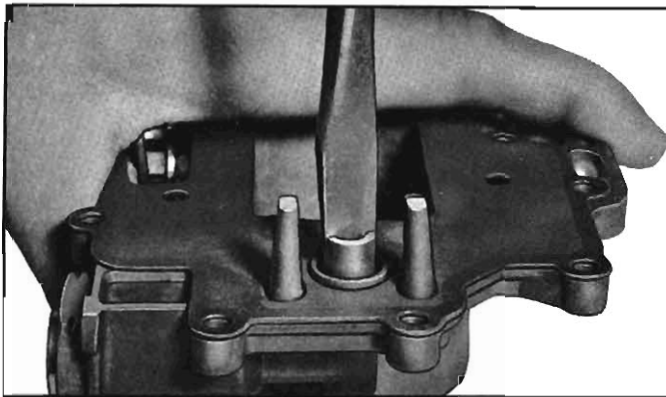

Fig. 17—Removing Needle Seat
8. If necessary, needle seat and gasket may be removed by using a large size screwdriver (fig. 17). It may then be cleaned or replaced as needed.